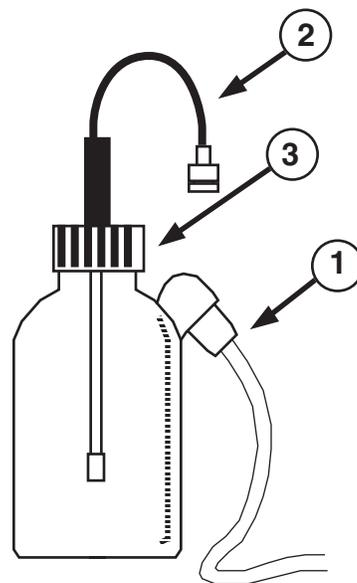

Fig. 1
After polarization of the OXELP probe as described above, a calibration for zero oxygen may be carried out in pure nitrogen gas or in water saturated with nitrogen. With stirring, the complete saturation of water with nitrogen may take more than ten minutes. Calibration in pure nitrogen gas is much faster and generally considered more reliable. A plastic calibration bottle (Fig.1) is supplied with the utility kit. Connect a plastic tube (1) from the side tube to a pure nitrogen gas source at a low pressure (less than 5 psi) and purge the bottle with nitrogen gas. Insert the OXELP probe (2) into the bottle through the top vent hole on the bottle cap (3). The current should be observed to drop rapidly (a few seconds) to a value